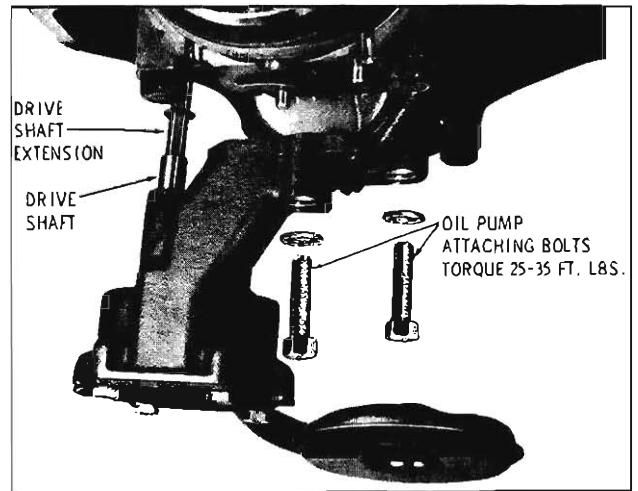

Fig. 3-424 Oil Pump Installation
2. Position pump onto the rear main bearing cap and install attaching bolts. Torque bolts 25-35 ft. lbs. (Fig. 3-424)